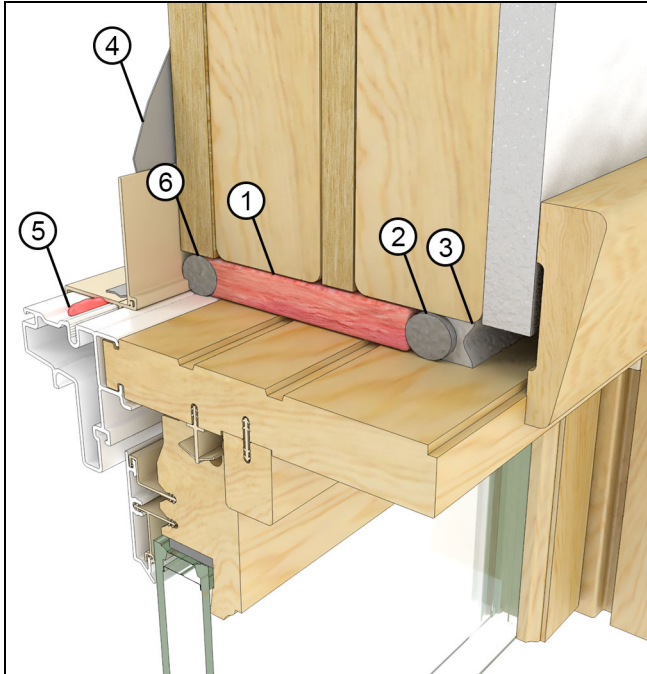

Figure 41
1. Loose Fill Fiberglass Insulation. Insulate the RO cavity with loose fill fiberglass insulation. Install a backer rod and sealant at the interior plane of the RO to create a continuous air seal. See Figure 41.